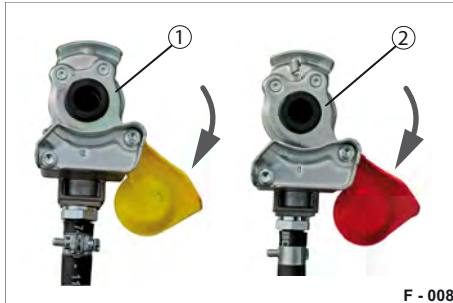

Fig. 11 Coupling
- ▶ Connect the "Brake" coupling head (Fig. 11/1).
- ▶ Couple the "supply line" coupling head (Fig. 11/2).
- ▶ Disconnect "Supply" coupling head (Fig. 11/2).
- ▶ Disconnect the "Brake" coupling head (Fig. 11/1).